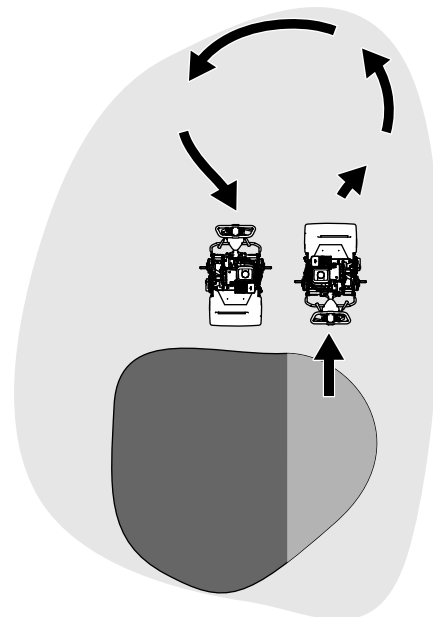

Figure 19
- Turn the machine off the green by raising the cutting reel (pushing the handle down) and performing a tear-shaped turn on the traction drum (Figure 19).
1. Locate the traction-engagement lever on the transmission gearbox (Figure 19).